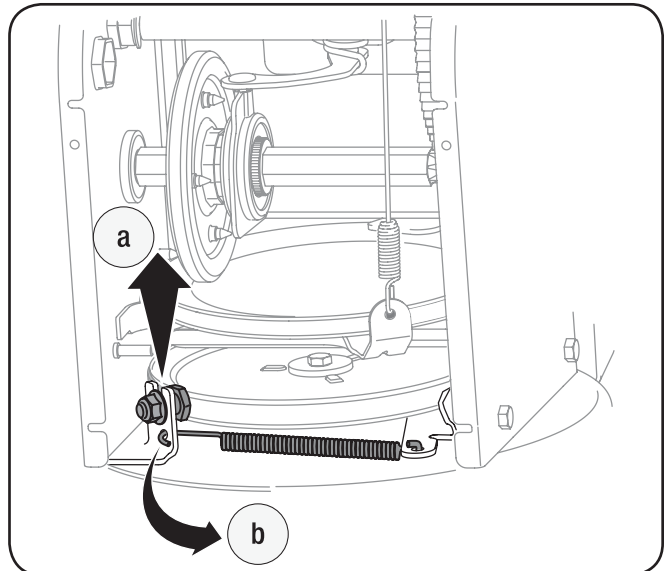

Figure 7-4
- b. Unhook the auger brake bracket spring from the frame. See Fig. 7-4.